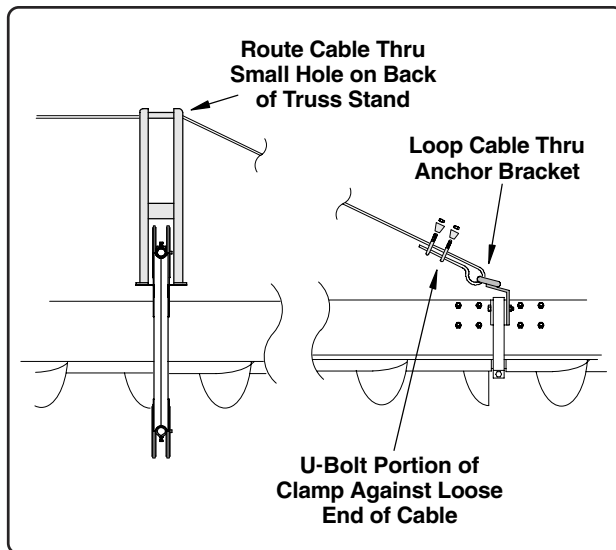

Fig. 14
1. Attach one end of the cable to the loop on the cable anchor bracket previously installed at the sweep shield splice (See Fig. 14). Secure the cable using two 5/16" cable clamps.